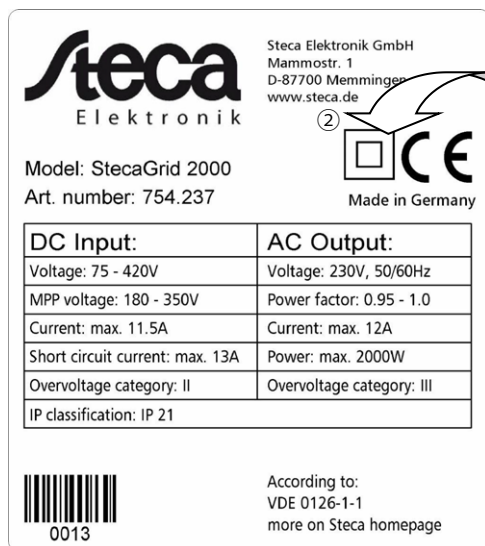

Fig. 11: Position of the sticker for covering the Protection Class II symbol
- ➔ Completely cover the *Protection class II* symbol using the small sticker provided, as shown in Fig. 11.